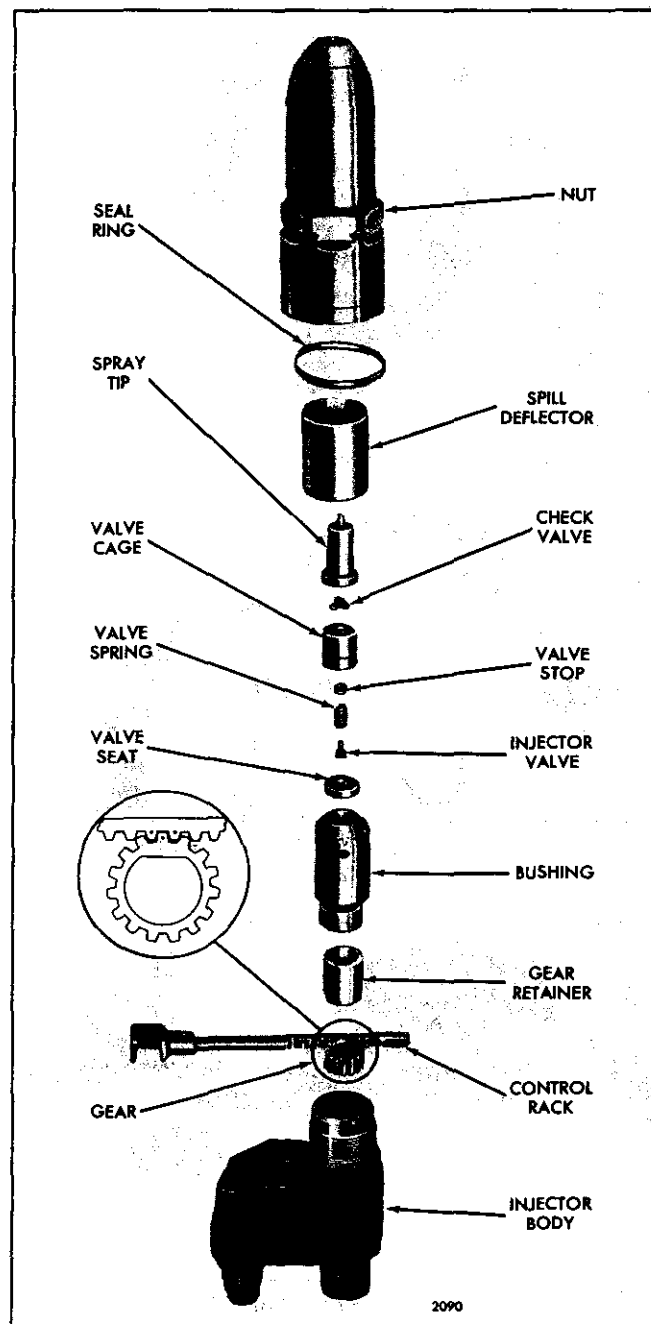

Fig. 15 - Injector Rack, Gear, Spray Tip and Valve Assembly Details and Relative Location of Parts
6. Refer to (Fig. 15) and remove the spill deflector. Then, lift the bushing straight out of the injector body.